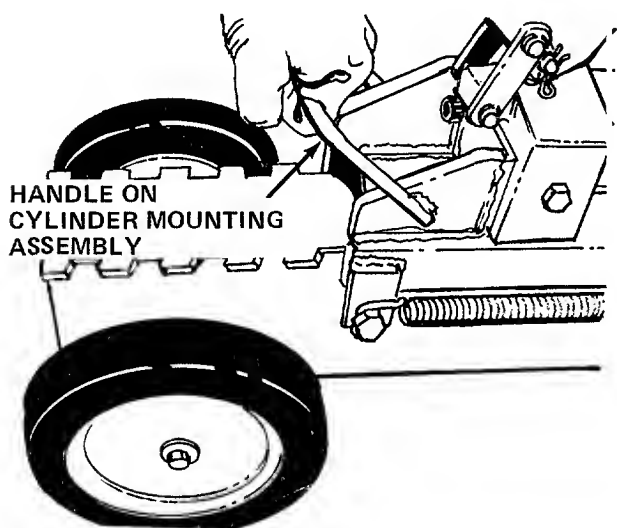

FIGURE 5
1. This splitter can be adjusted manually for logs 8" to 24" long. There are twelve different settings. Settings are approximately 1-1/2" apart. See figure 5.
2. Simply lift up on handle of cylinder mounting assembly and slide the unit forward or backward for the correct log length. See figure 5.